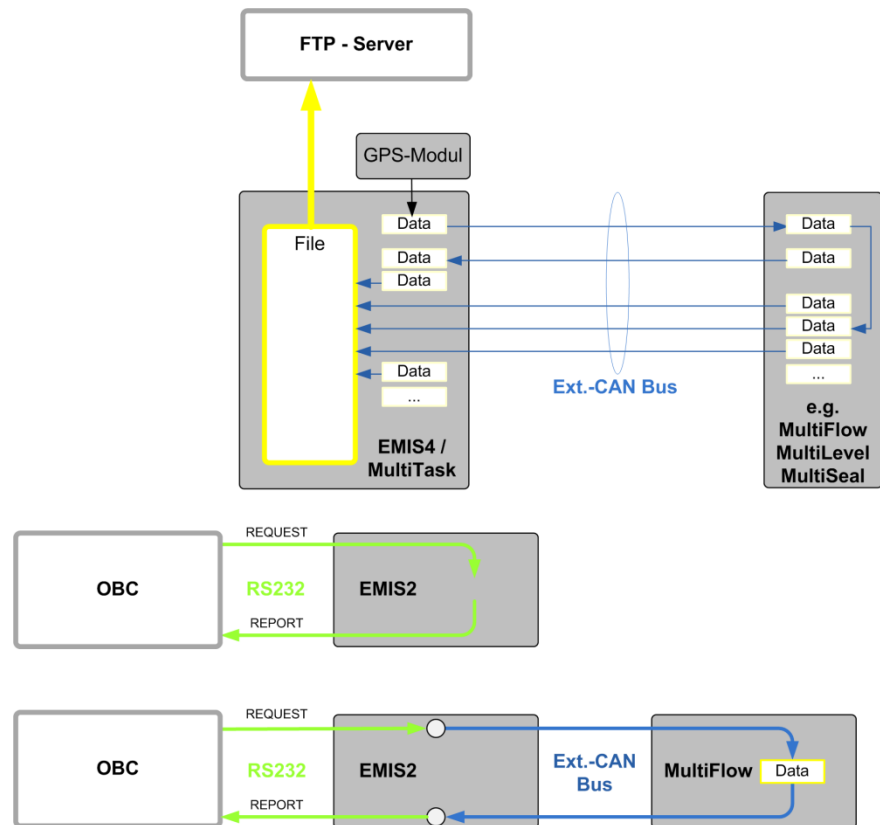

Fig.3: EMIS2 / EMIS4 / MultiTask Data Handling
- ☐ The data handling inside the EMIS4 is quite different. Needed data can be already available at the EMIS4/MultiTask or have to be requested from the other devices (Fig.3 e.g. MultiFlow). This is done by the CAN bus interface. Because one more CAN bus is currently used by other devices this one is called the *Ext.-CAN Bus*.